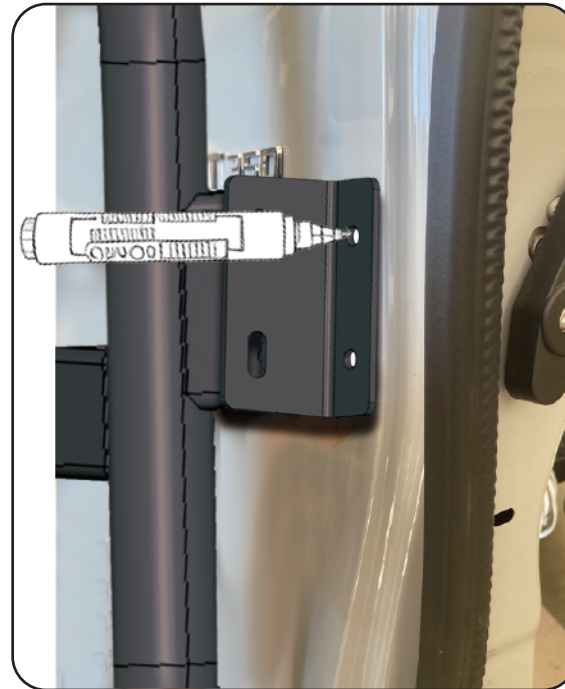

FIG:10
4.1 Marking the Door Drill Location: Now that the ladder/tire carrier frame is in place we can shift it and find the optimum location for drilling the holes into the door. us a pen that will mark and be visible on the surface of the paint to mark the location to drill. We try to line up the drill through bracket just above where the door bends outward. (FIG 10)